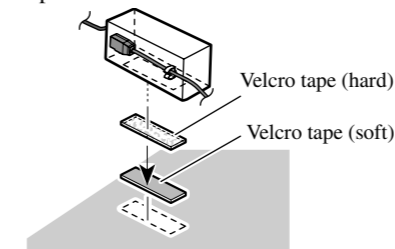

Fig. 8
• When installing the optical cable connection box with the velcro tape. (Fig. 8)